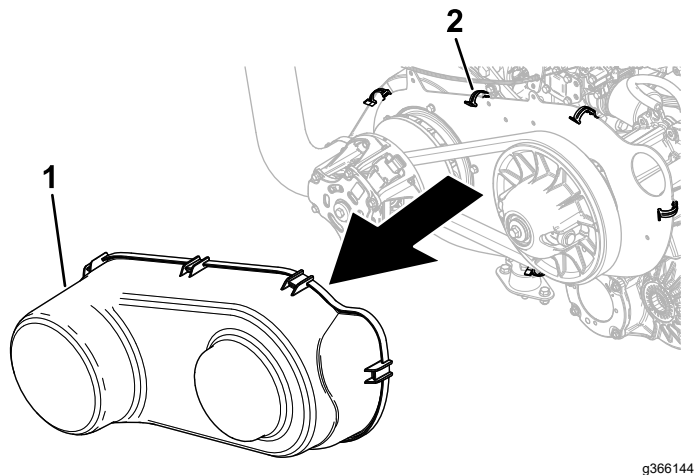

Figure 124
5. Unlatch the 6 spring clips securing the belt cover and remove the cover (Figure 124).
8. Install the belt cover (Figure 124).
10. Install the belt cover (Figure 124).